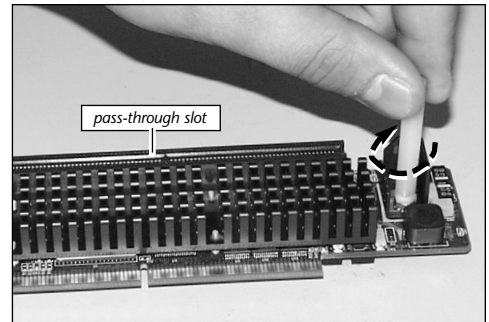

Figure 15: Screw support stand-off onto Crescendo card
12. Place the Crescendo card in front of you with the pass-through slot facing upward. Screw the support stand-off (supplied with the adapter kit) onto the card (**Figure 15**).